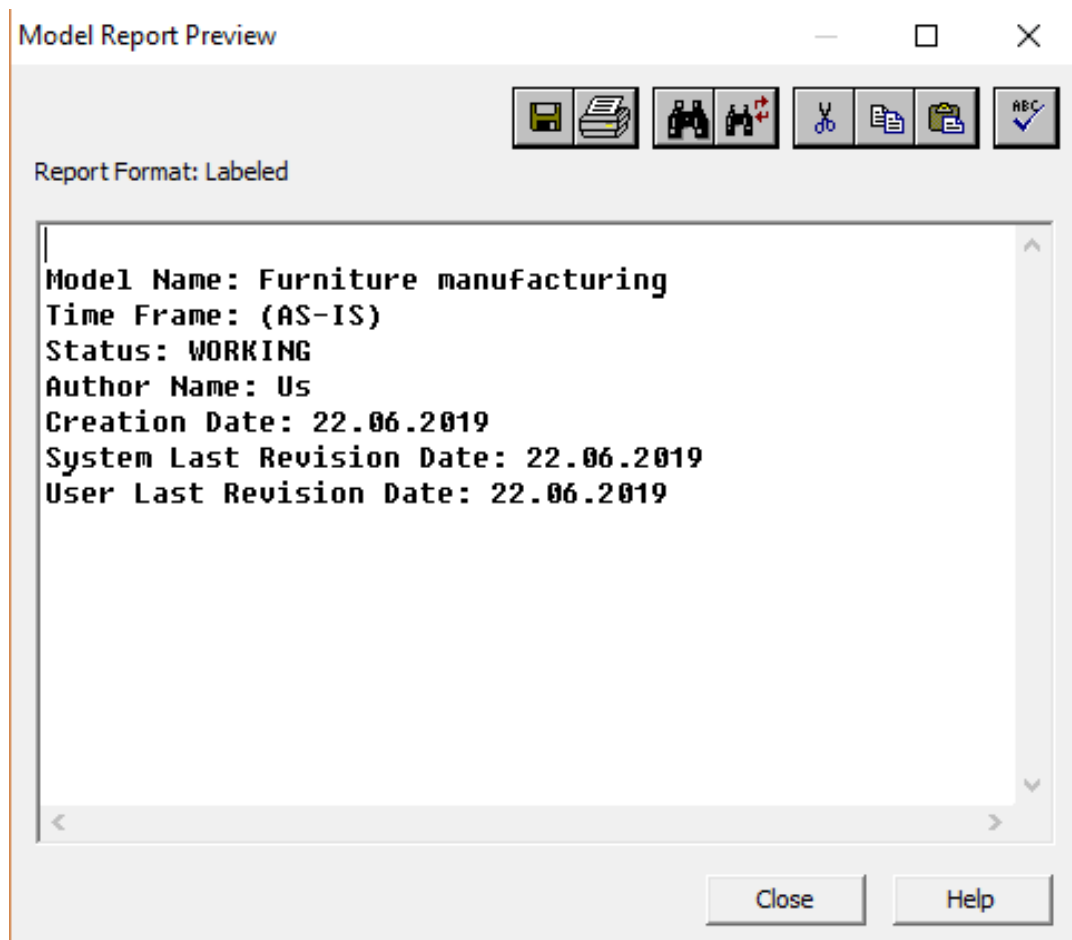

Fig. 3.11. Model report preview
3. Select the button **Preview** to look through the report (fig. 3.11).